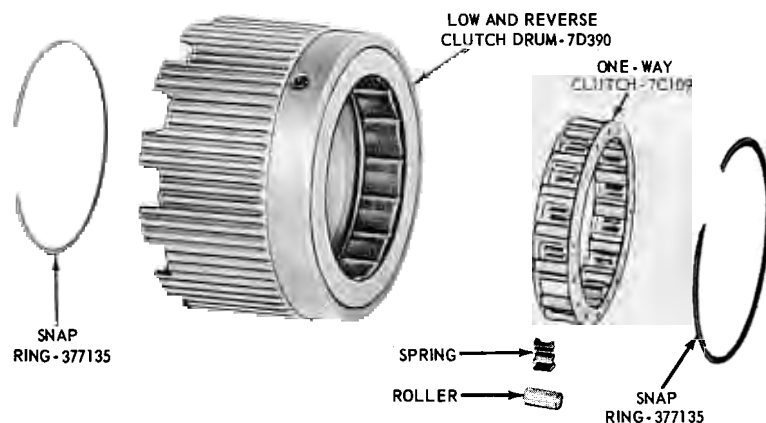

FIG. 58—One-Way Clutch Disassembled
1. Remove the snap ring (Fig. 58) from the rear of the low-reverse clutch hub.